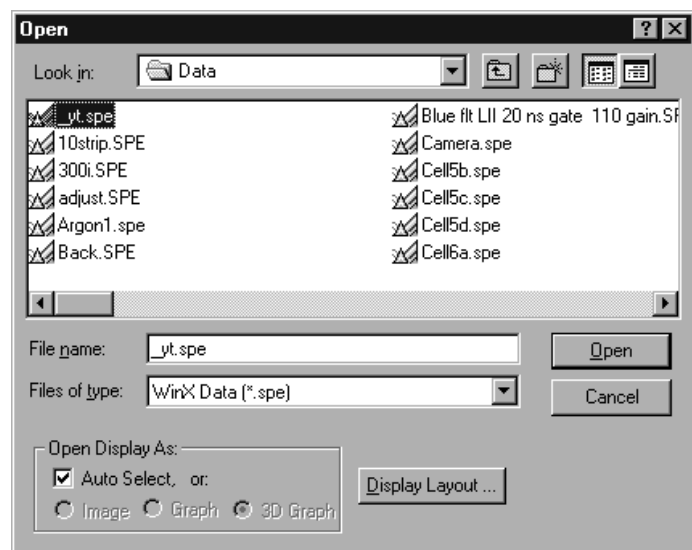

Figure 54. Open dialog box
1. Select **Open** from the File menu. The File Open dialog box will appear (Figure 54).
2. Open the directory containing the data files. Clicking on the button at the right of the Look In field opens a browser function, allowing you to quickly and easily access the correct folder. As shown in Figure 54, the data files will be listed below.